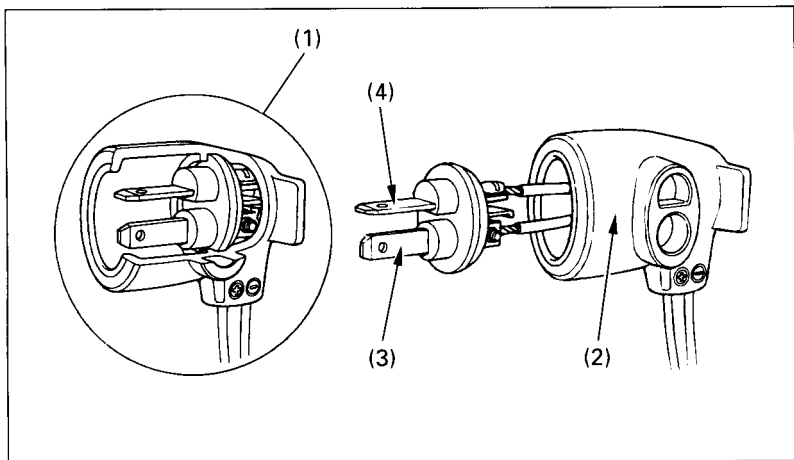

Fig. 2-30 (1) Special DC plug
2. Remove the plug cover (2) from the plug (Fig. 2-30).
3. Thread the positive and negative accessory leads through the plug cover as indicated in Fig. 2-30.
4. Attach the leads to the plug (1). Make sure to connect the positive lead (3) and the negative lead (4) to the proper terminals (Fig. 2-30).